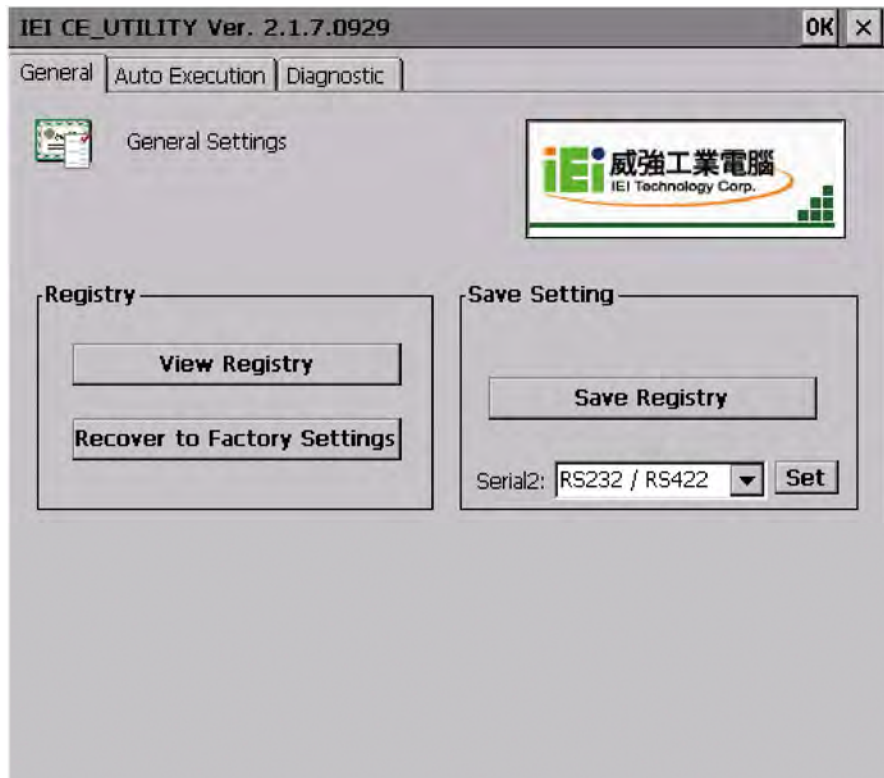

Figure 4-5: Serial Port Mode Setting
- Step 2:** **Change serial port mode setting.** Change the value in Figure 4-5 to the desired mode setting.